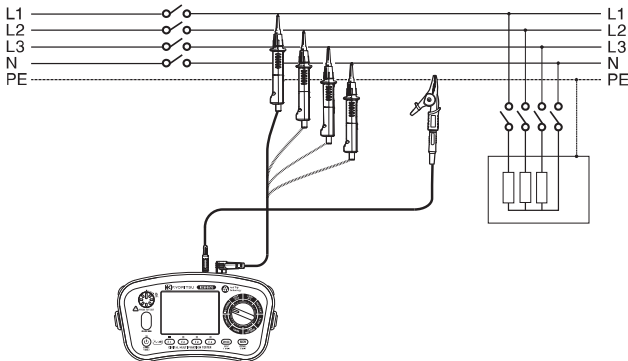
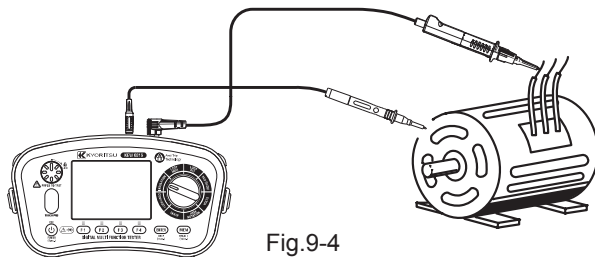
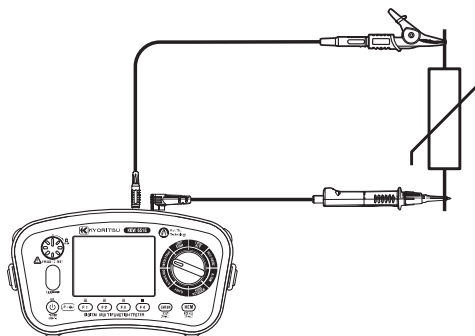

Fig. 9-3 Example of Insulation resistance test on 4 wire-3 phase system
Fig.9-4
Fig. 9-5 SPD(VARISTOR) test connection
- (5) Attach the test leads to the circuit or the appliance under test (See Fig. 9-3, Fig. 9-4, and Fig. 9-5).